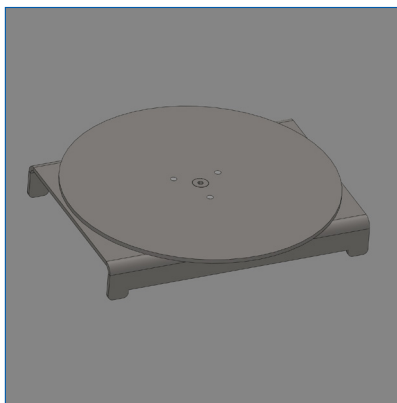

Figure 3
- Rotary table we use to open the circular cans **Figure 3**, circular and square cans must be positioned movable tray **Figure 4**,